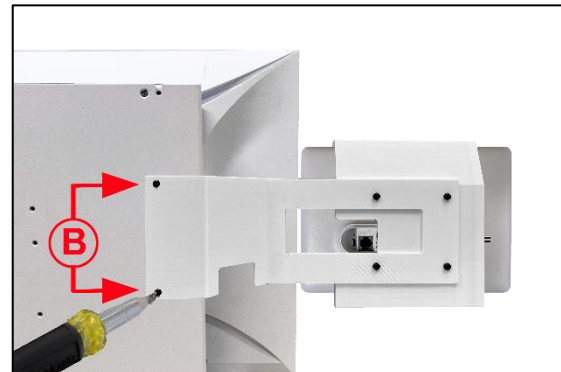

Figure 25. Attaching Navigator Mounting Bracket
Attach the mounting bracket to the Cisco 20x CLINiC with the two supplied countersunk screws using a Philips screwdriver (B), as shown in Figure. 25.